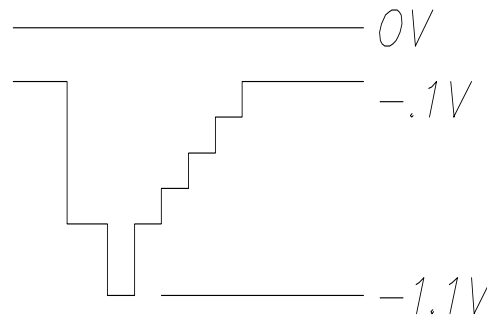

Figure 7-1. Waveform
6. Monitor TP2 with an oscilloscope. Adjust pot R41, manual offset, for a blanking level of -0.8 VDC. The waveform shown in Figure 7-1 should be observed at this point. Move jumper W2 on J4 to the Clamp Enable position. Adjust pot R152, depth of modulation, for a blanking level of -0.8 VDC.